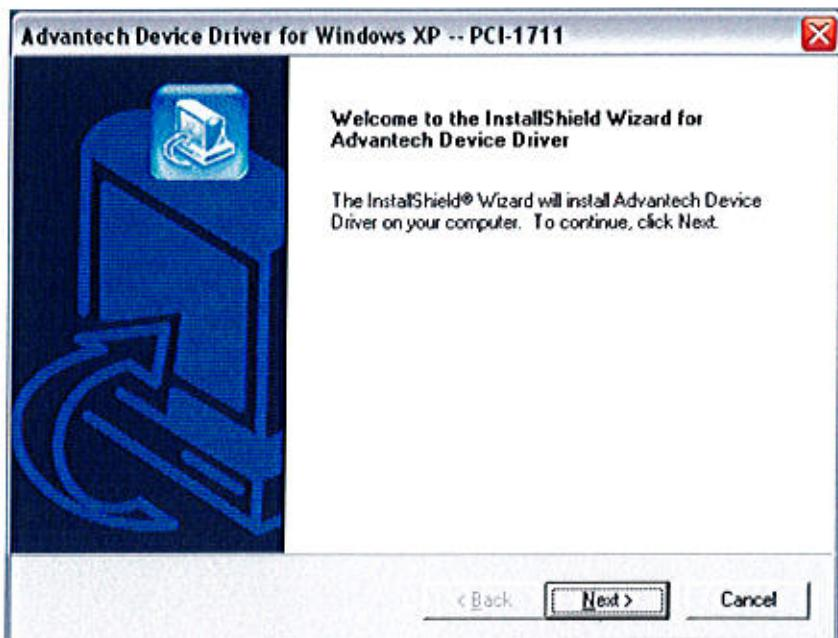

Figure 13 PCI-1711 Driver Installation window
13. Select the 'PCI-1711'. The driver installer will open in a new window (Figure 13).